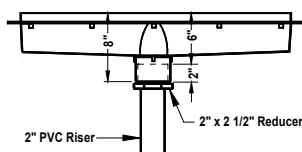

Figure 3
6. Determine the suction line size that will be used on the current installation and select the method of determining the Height of the Channel Drain (see Figure 3).